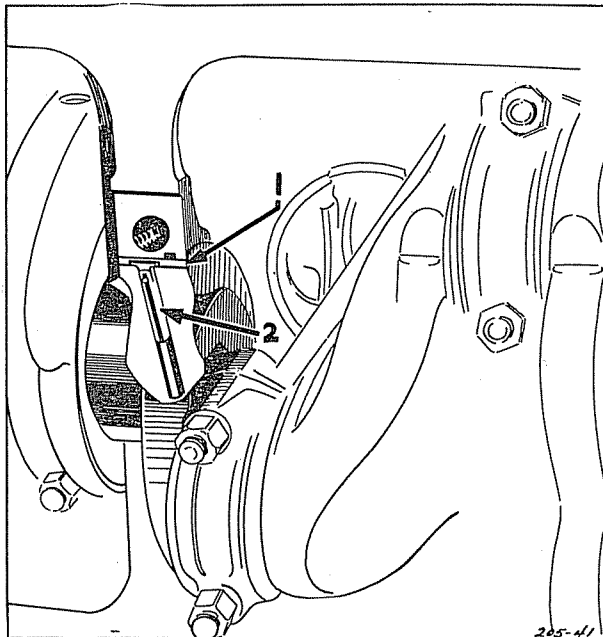

Fig. 4—Removing Upper Main Bearings.
- (4) Remove and instal the upper bearing shells, one at a time, with tool C.584. Insert the pin of the tool in the oil hole of the crankshaft (Figure 4). Slowly rotate the crankshaft clockwise, forcing out the bearing.